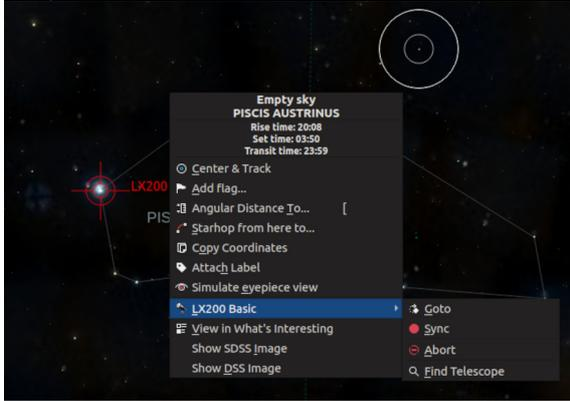

Figure 16: After connection, the **LX200 Basic** menu can be opened by a right-click with the mouse.
- By right-clicking in the main window of *KStars*, you can open the *LX200 Basic menu* for telescope operation (Fig. 16).